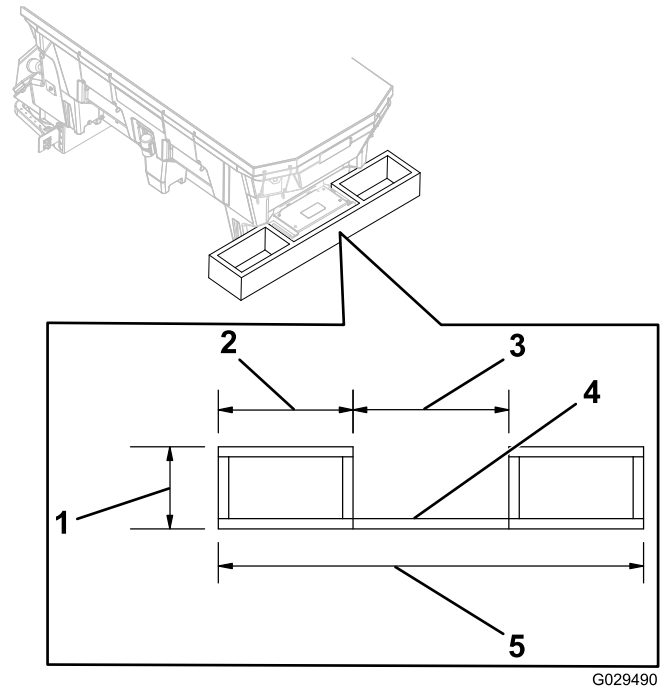

Figure 9
- Using 3.8 x 18.4 cm (1-1/2 x 7-1/4 inch) lumber, build the spacer as shown in Figure 9.
Note: For model VBS14210 and VBS15310, do not include the center board in Figure 9.